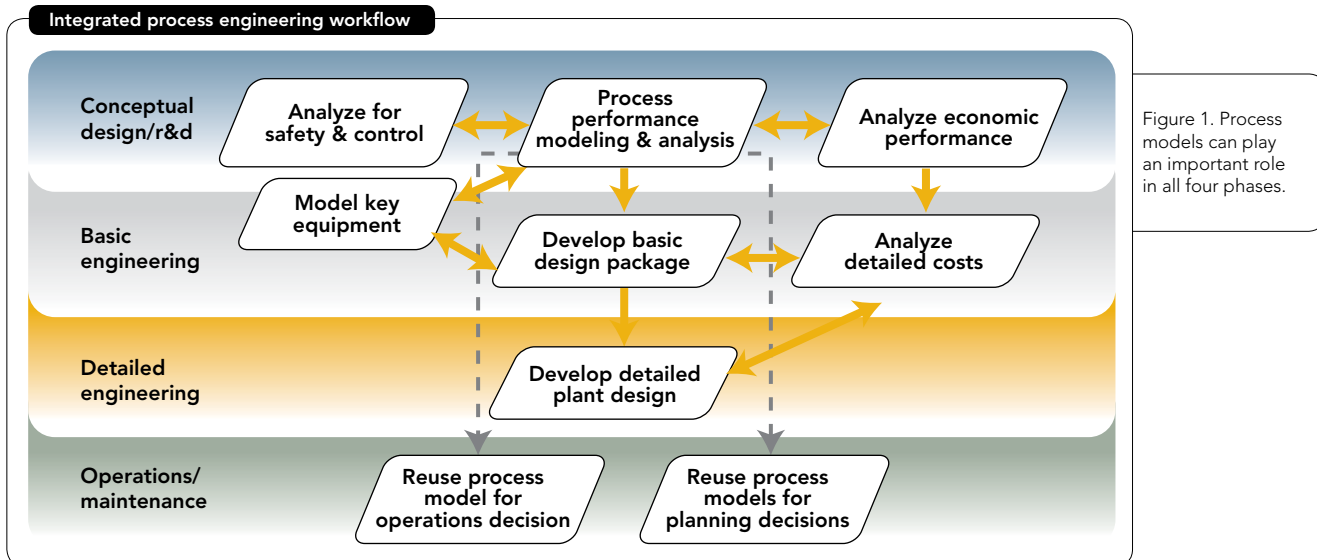

Figure 1. Process models can play an important role in all four phases.
1. Initially modeling tools were developed to solve specific problems such as energy analysis, heat exchanger design, dynamic analysis and cost estimation. Next industry began to build links between these individual tools so they could share information and data. Then, with development of process data models and modularized tools, links evolved into real integrated process simulation workflow (Figure 1). This integrated approach yields time, cost and quality benefits. (Such streamlined workflow also offers advantages to engineering firms, which face increasing pressures to efficiently execute projects with fewer engineers. [1])